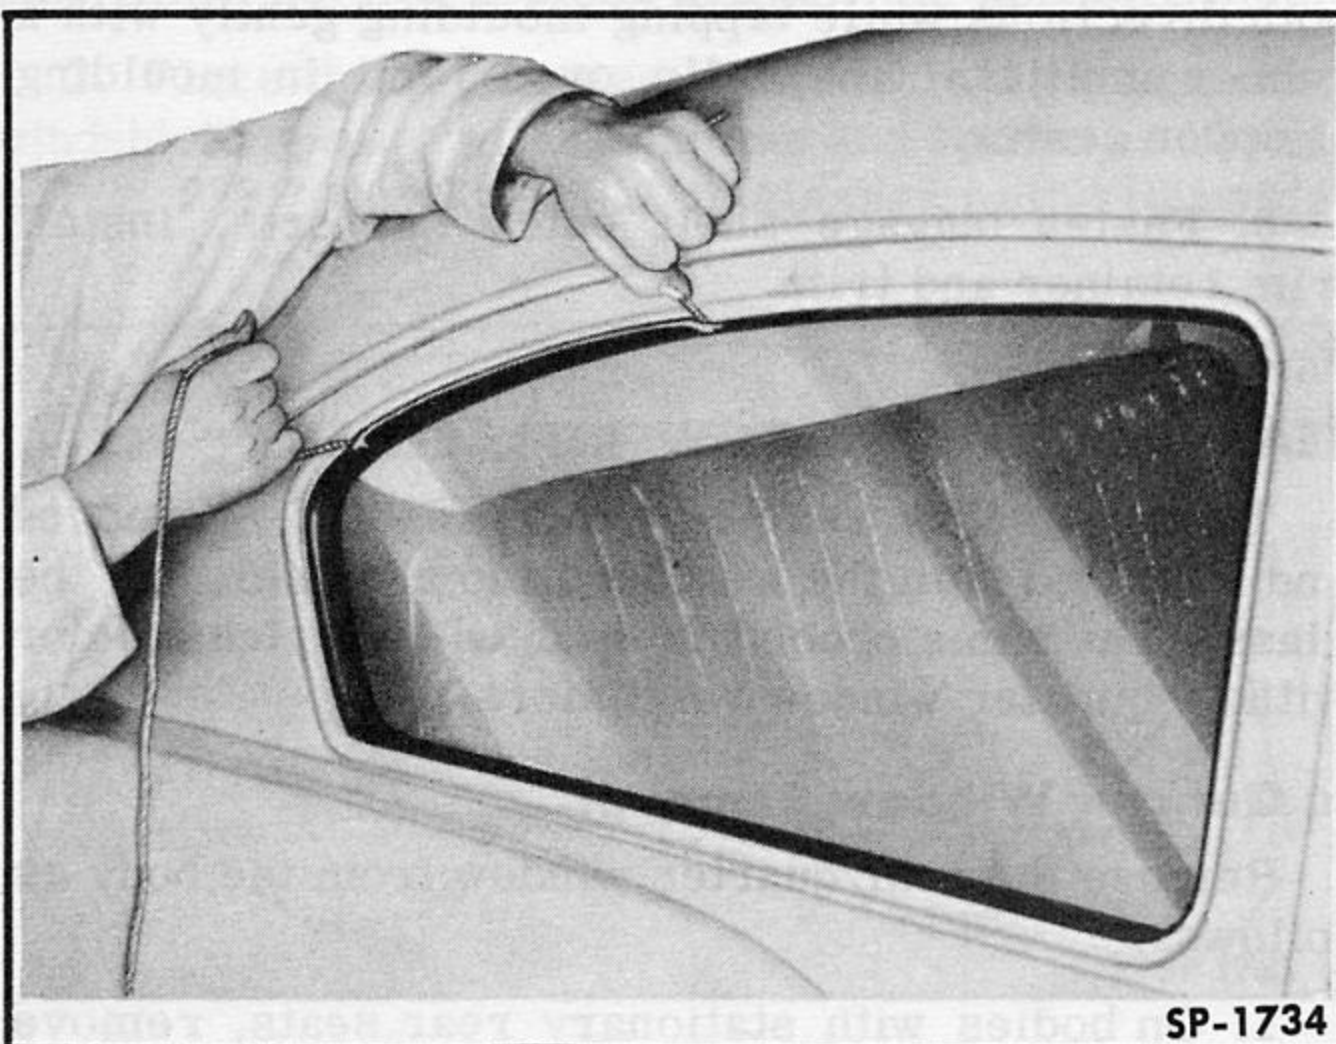

Fig. 231—Installing Quarter Window
6. From outside the body, pull cord ends as shown in Fig. 231 until entire outer lip of weatherstrip is over the pinchweld flange.